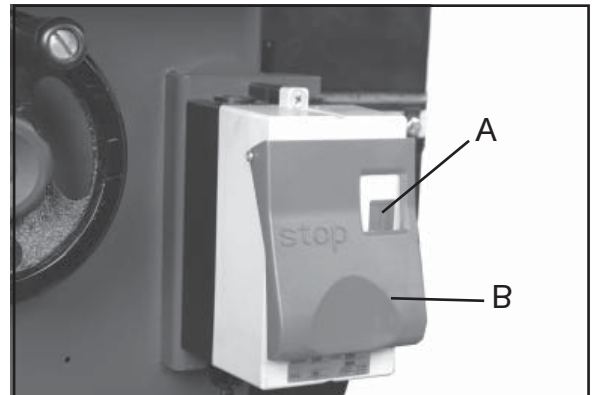

Figure 25
1.) To start the saw, depress the green button at the top of the switch (A, Fig. 25).
2.) To shut the saw off, hit the large stop paddle with your hand. For hands free operation, you can bump the large stop paddle with your knee (B, Fig. 25).